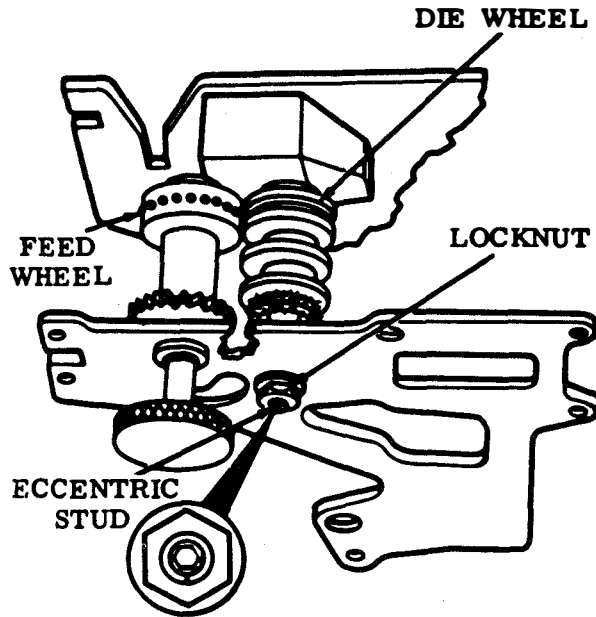

Figure 6-260. Ten Characters Per Inch (Preliminary)
(1) Ten Characters Per Inch (Preliminary). Adjust as follows:
- (a) Refer to figure 6-260.